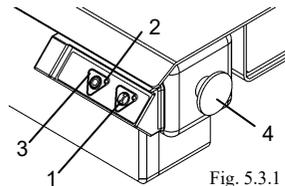

Fig. 5.3.1
5.3 - Starting the machine (fig. 5.3.1)
5.4 - Stopping the machine (fig. 5.3.1)